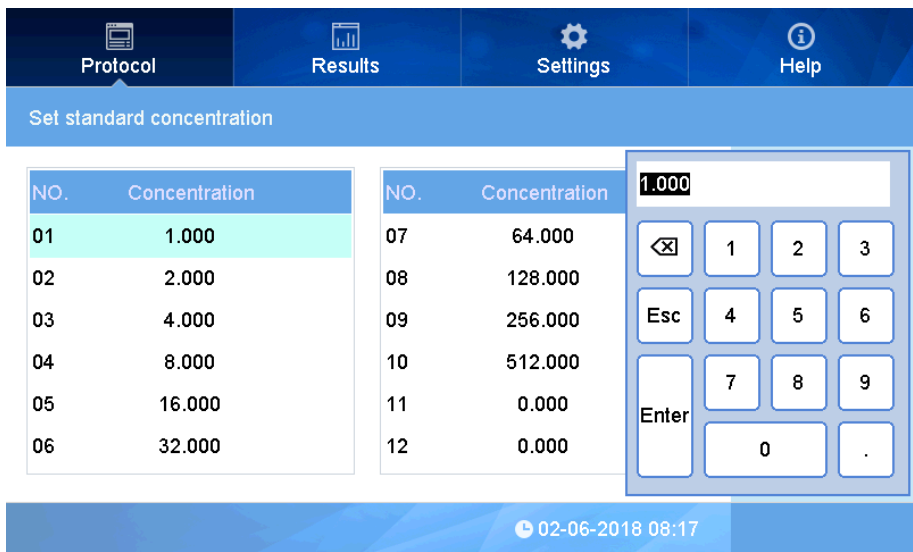

Fig 20
① 12 standard default values will be shown on this interface. It is only necessary to set the concentration for the standard positions that have been set in the layout. The ones which have not been set in the layout will not be considered.
② Click the concentration number twice to input the concentration value. See Fig 20.